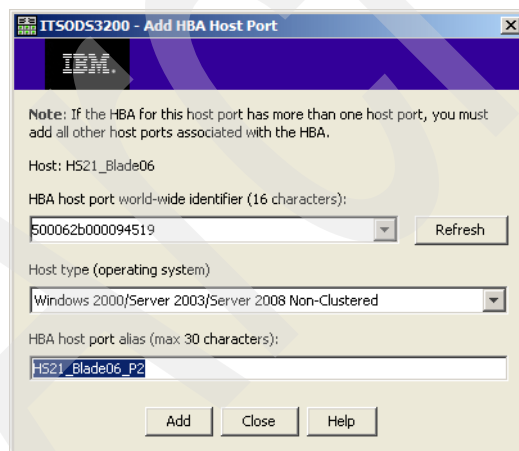

Figure 20-44 Selecting HBA
5. Select the second HBA port of the SAS Expansion Card from the drop-down list and specify an alias for the HBA, as shown in Figure 20-44. Click **Add** to continue.